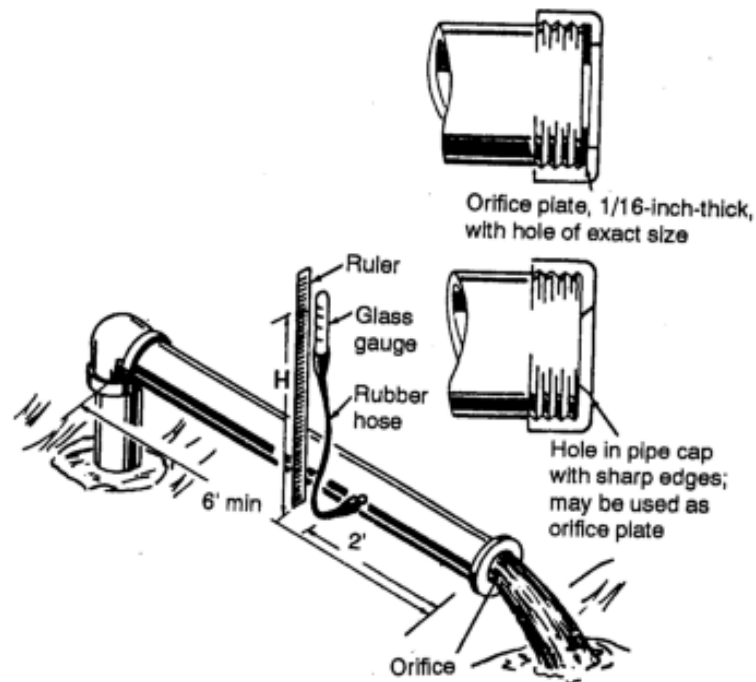

Figure 8-5. Circular-orifice flow meter
c. *Circular-Orifice Method.* A circular-orifice meter (Figure 8-5) is a device you can make to measure discharge rates. This device gives good results and is compact and easily installed. The meter consists of a sharp-edged circular orifice at the end of a horizontal discharge pipe. The orifice is from one-half to three-fourths the diameter of the pipe. The inside of the pipe must be smooth and free from obstructions for a length of 6 feet from the orifice. The discharge pipe has a small hole on one side with a rubber-tube connection. The pipe is designed so that you can measure the pressure (head) in the discharge pipe at a distance of 2 feet from the orifice.